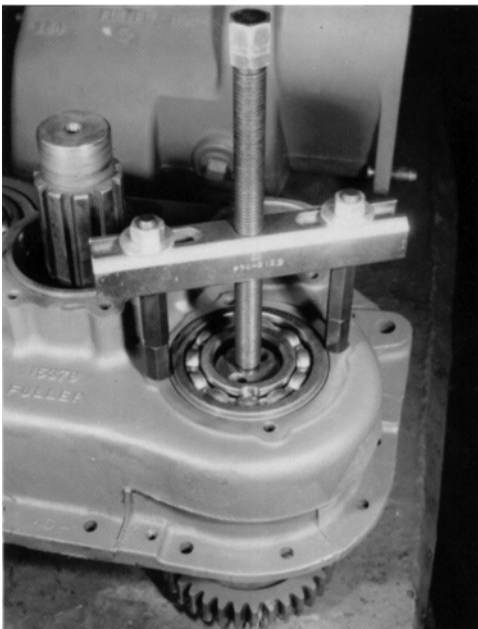

FIGURE 7
1. Assemble cross block and screw to transmission case with two puller short legs (Item 6) and two adapters (Item 7). See Figure 7.